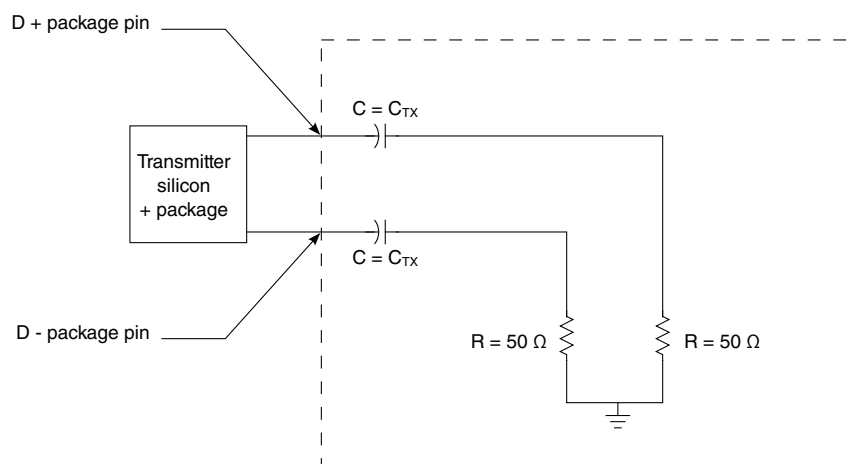

Figure 87. Test and measurement load
1. Specified at the measurement point into a timing and voltage test load as shown in Figure 87 and measured over any 250 consecutive transmitter UIs.
- Specified at the measurement point into a timing and voltage test load as shown in Figure 87 and measured over any 250 consecutive transmitter UIs.
<p>1. Specified at the measurement point and measured over any 250 consecutive UIs. The test load in Figure 87 must be used as the receiver device when taking measurements. If the clocks to the receiver and transmitter are not derived from the same reference clock, the transmitter UI recovered from 3500 consecutive UI must be used as a reference for the eye diagram.</p> <p>2. A $T_{RX-EYE} = 0.40$ UI provides for a total sum of 0.60 UI deterministic and random jitter budget for the transmitter and interconnect collected any 250 consecutive UIs. The $T_{RX-EYE-MEDIAN-to-MAX-JITTER}$ specification ensures a jitter distribution in which the median and the maximum deviation from the median is less than half of the total. UI jitter budget collected over any 250 consecutive transmitter UIs. It must be noted that the median is not the same as the mean. The jitter median describes the point in time where the number of jitter points on either side is approximately equal as opposed to the averaged time value. If the clocks to the receiver and transmitter are not derived from the same reference clock, the transmitter UI recovered from 3500 consecutive UI must be used as the reference for the eye diagram.</p> <p>3. It is recommended that the recovered transmitter UI is calculated using all edges in the 3500 consecutive UI interval with a fit algorithm using a minimization merit function. Least squares and median deviation fits have worked well with experimental and simulated data.</p> <p>4. For recommended operating conditions, see Table 4.</p>